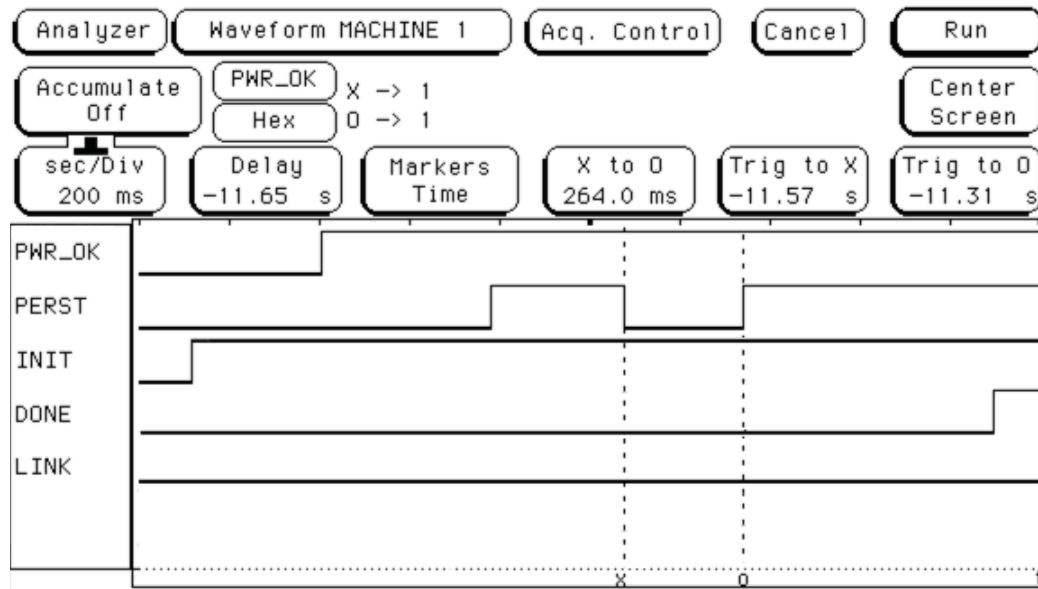
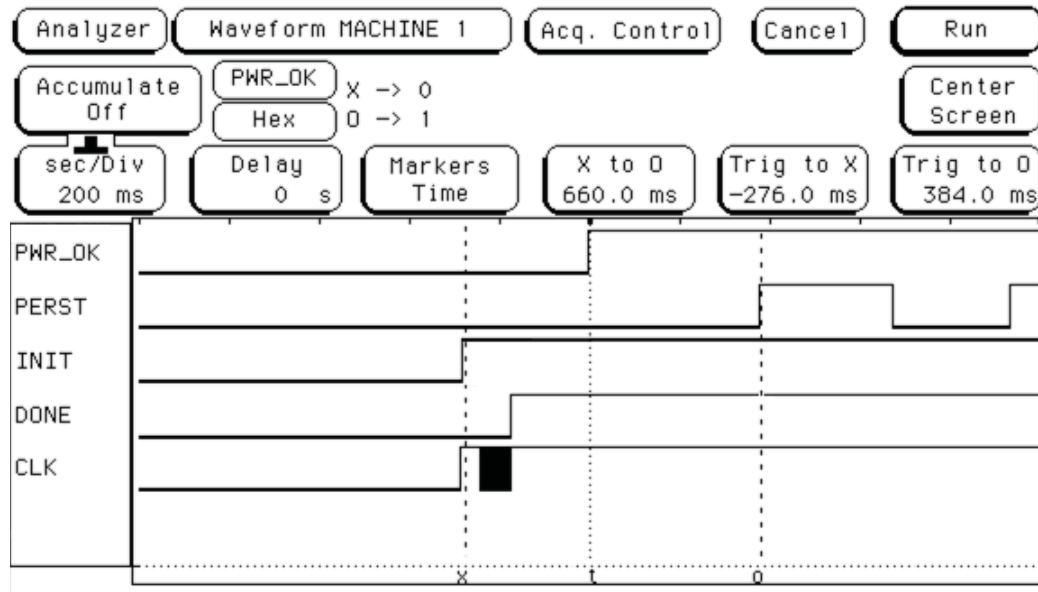

Figure 3-91: Host Fails to Recognize FPGA Due to Slow Configuration Time
Figure 3-92: Host Successfully Recognizes FPGA
This section presents data from an ASUS PL5 system to demonstrate the relationships between Power Valid, FPGA Configuration, and PERST#. Figure 3-91 shows a case where the Endpoint failed to be recognized due to a FPGA configuration time issue. Figure 3-92 shows a successful FPGA configuration with the Endpoint being recognized by the system.
Figure 3-91 illustrates an example of a cold boot where the host failed to recognize the Xilinx FPGA. Although a second PERST# pulse assists in allowing more time for the FPGA to configure, the slowness of the FPGA configuration clock (2 MHz) causes configuration to complete well after this second deassertion. During this time, the system enumerated the bus and did not recognize the FPGA.
Figure 3-92 illustrates a successful cold boot test on the same system. In this test, the CCLK was running at 50 MHz, allowing the FPGA to configure in time to be enumerated and recognized. The figure shows that the FPGA began initialization approximately 250 ms before PWR_OK. DONE going High shows that the FPGA was configured even before PWR_OK was asserted.
1. Check if the motherboard and BIOS generate multiple PERST# pulses at start-up. This can be determined by capturing the signal on the board using an oscilloscope. This is similar to what is shown in Figure 3-91. If multiple PERST# pulses are generated, this typically adds extra time for FPGA configuration.